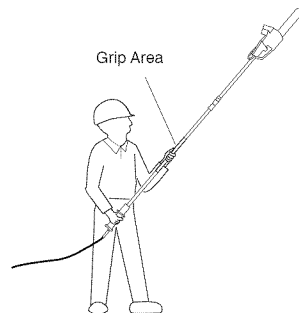

Figure 9- Designated Grip Areas
2. Use both hands to grip Pole Saw. Use only designated grip areas when operating Pole Saw (see Figure 9, page 12). Use firm grip. Thumbs and fingers must wrap around Pole Saw handle and pole.